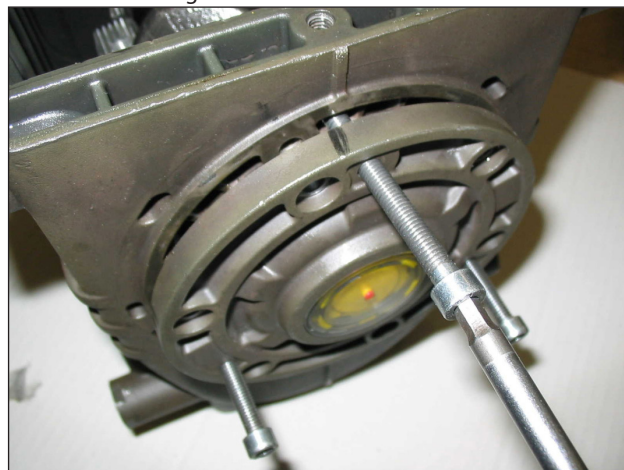

Fig. 3
- The lateral covers (and the VFV flange) using for the extraction No. 3 fully threaded M6x50 screws (M10x40 for the VFV flange) inserting them into the threaded holes as indicated in Fig. 3.